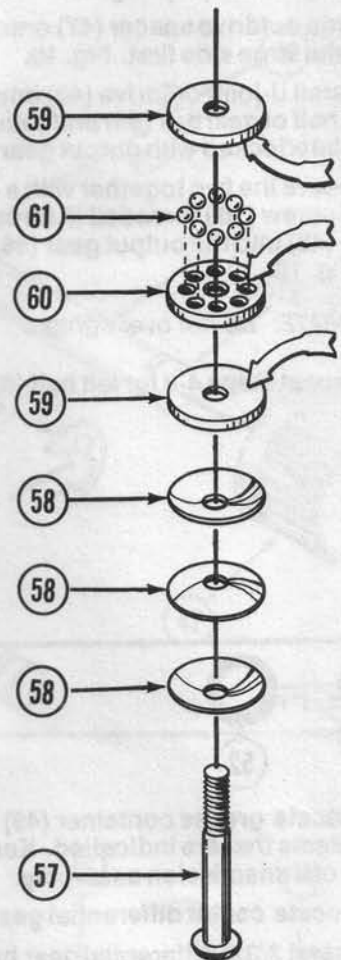

FIG. 21
19. Using 5-40 x 7/8" button head shoulder screw (57) assemble thrust assembly in the following order. Fig. 21.
20. Slide three opposing belleville cone washers (58) down the 5-40 x 7/8" button head shoulder screw (57) with the tip of the cone of the first washer (58) against the head of the screw (57). Fig. 21.
* *NOTE: The belleville washers are black. The washers (58) should be opposing (ie; the tops of the cones should meet and the bottoms of the cones should meet).*
21. Slide one well greased thrust washer (59) down screw (57) shaft as shown. Fig. 21.
* *NOTE: The thrust washer should only touch the big edge of the last belleville (58). Grease thrust bearing side of washer only as indicated by arrows*
22. Slide well greased bronze bearing cage (60) down screw (57) shaft. Fig. 21.
23. Insert eight 1/16" thrust balls (61) into the cage (60). Fig. 21.
24. Slide the second well greased thrust washer (59) down screw (57) shaft. Fig. 21.